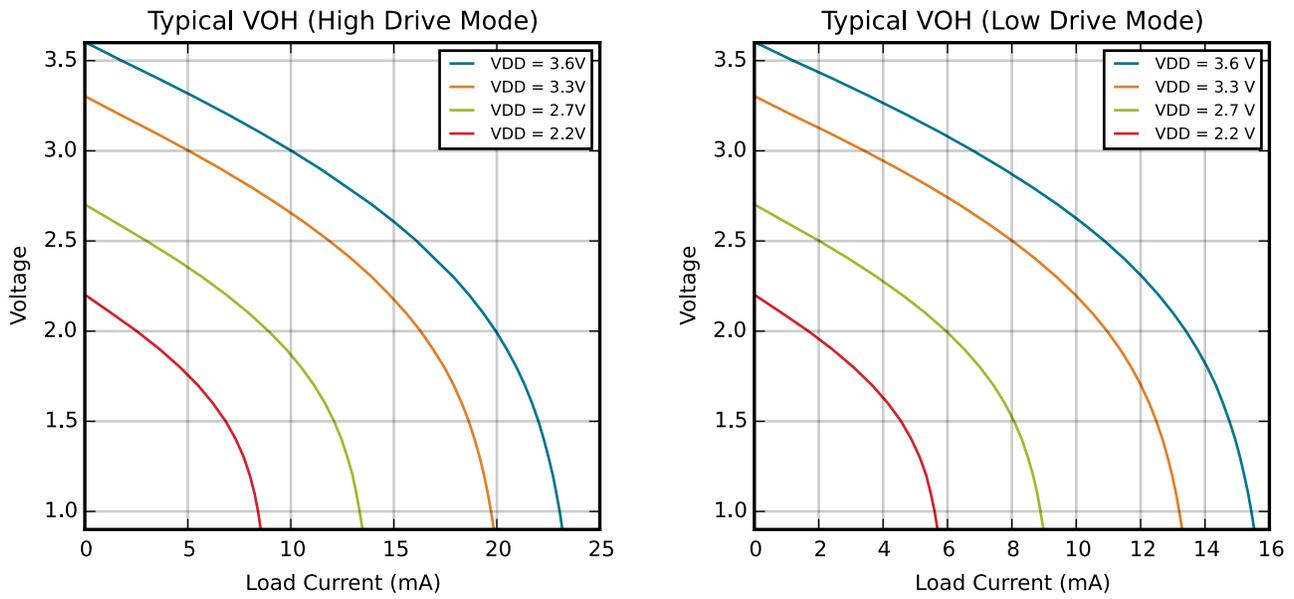
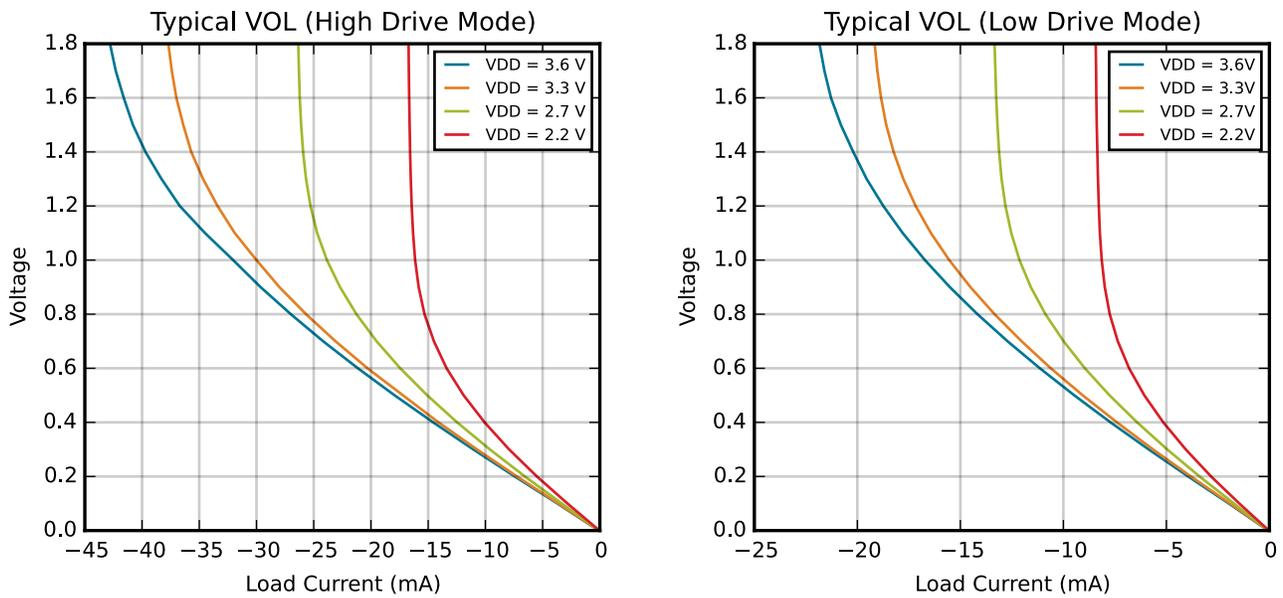

Figure 4.6. Typical VOH Curves
Figure 4.7. Typical VOL Curves
1. See Figure 4.6 Typical VOH Curves on page 33 and Figure 4.7 Typical VOL Curves on page 33 for more information.